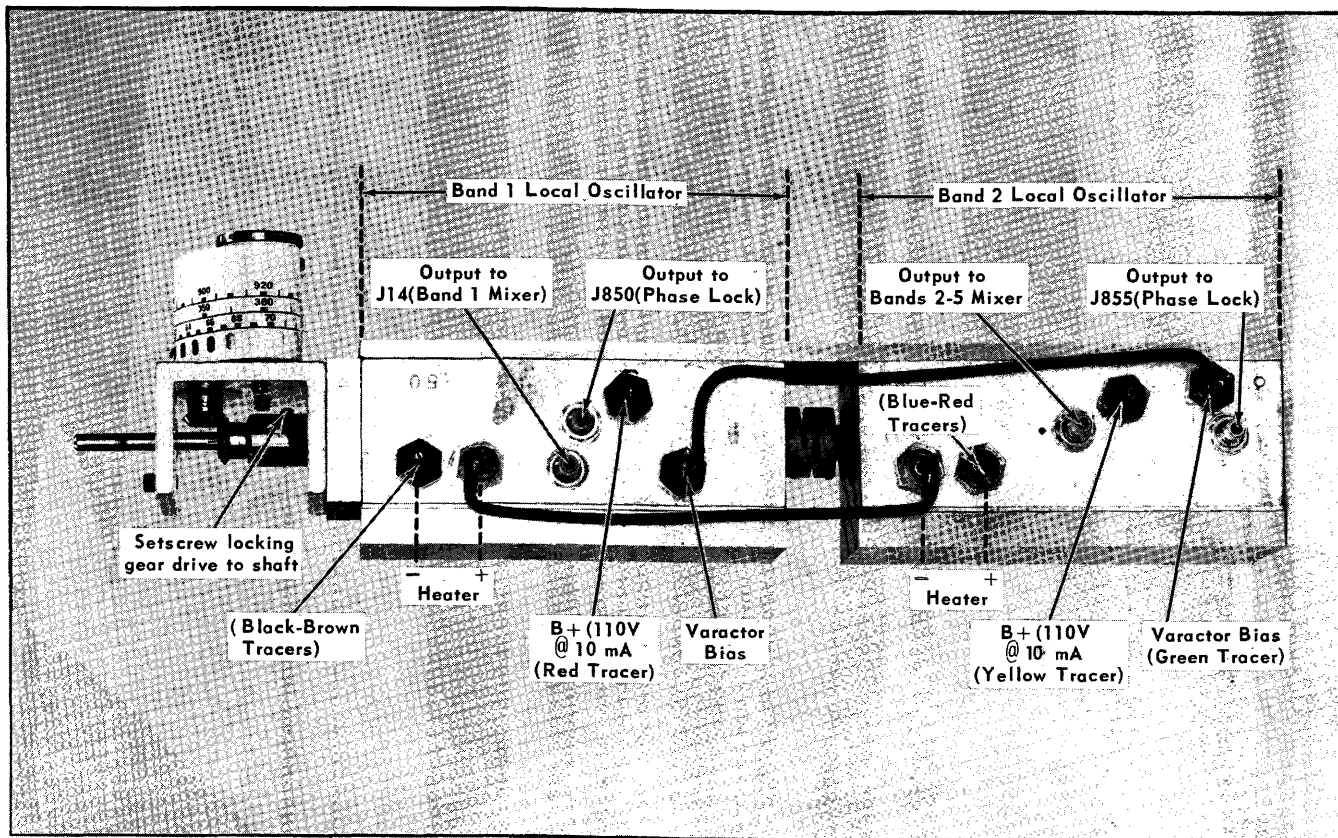

Fig. 6-28. Local Oscillator connections.
12. Loosen the inductor lock screw on the left side of the Bands 2-5 Local Oscillator (see Fig. 6-28). This screw is located on the left side, slightly forward of the oscillator center. Do
16. Set the frequency meter to indicate 1100 MHz. Set the dial tape to 900 and adjust the Bands 2-5 capacitance adjustment (see Fig. 6-28) to tune the oscillator frequency to 1100 MHz.